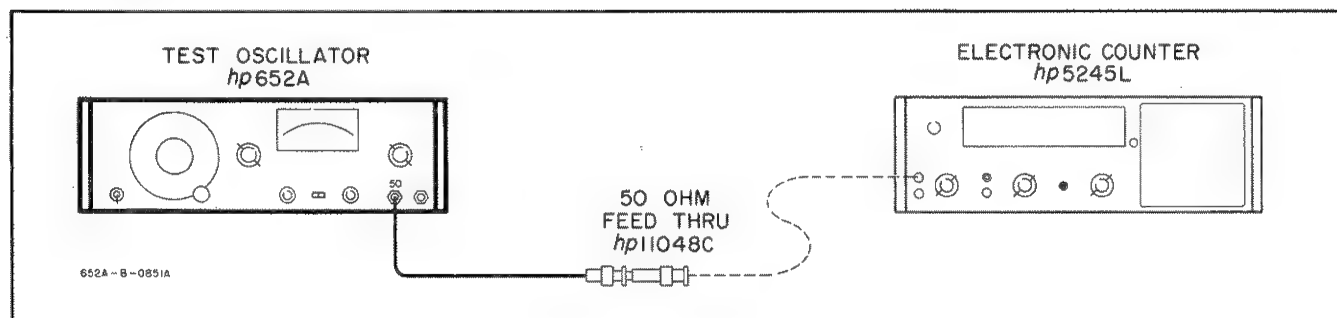

Figure 5-1. Frequency Tests.
- a. Connect 652A 50 ohm output to dc input of electronic counter as shown in Figure 5-1.